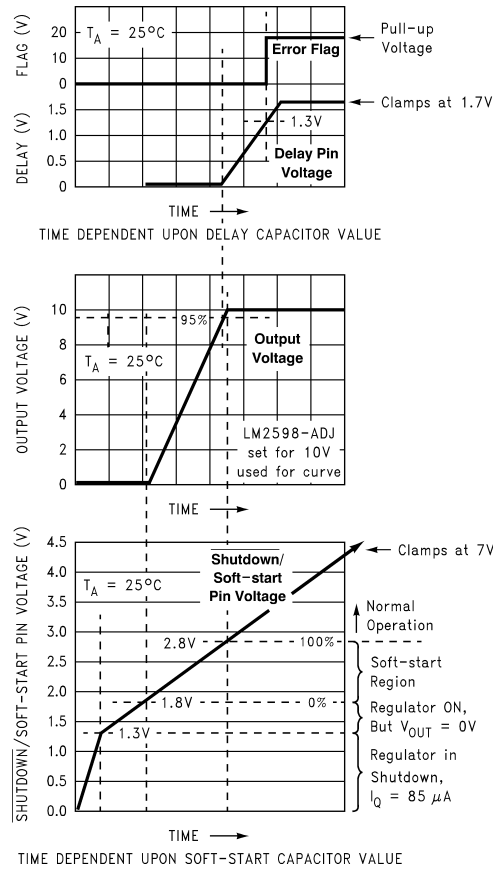
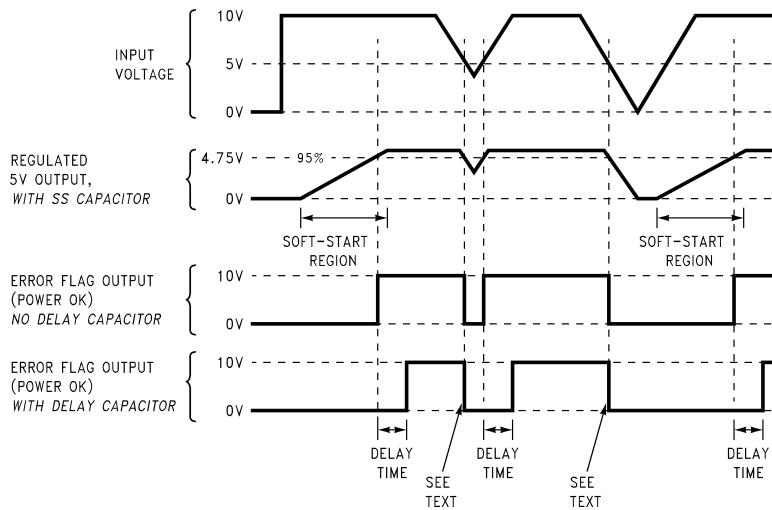

Figure 14. Soft-start, Delay, Error, Output
Figure 15. Timing Diagram for 5V Output
C_{SS} —A capacitor on this pin provides the regulator with a Soft-start feature (slow start-up). When the DC input voltage is first applied to the regulator, or when the $\overline{\text{Shutdown}}$ /Soft-start pin is allowed to go high, a constant current (approximately 5 μA) begins charging this capacitor). As the capacitor voltage rises, the regulator goes through four operating regions (See the bottom curve in Figure 14).
3. Soft-start Region. When the $\overline{\text{SD}}$ /SS pin voltage is between 1.8V and 2.8V (@ 25°C), the regulator is in a Soft-start condition. The switch (Pin 1) duty cycle initially starts out very low, with narrow pulses and gradually get wider as the capacitor $\overline{\text{SD}}$ /SS pin ramps up towards 2.8V. As the duty cycle increases, the output voltage also increases at a controlled ramp up. See the center curve in Figure 14. The input supply current requirement also starts out at a low level for the narrow pulses and ramp up in a controlled manner. This is a very useful feature in some switcher topologies that require large startup currents (such as the inverting configuration) which can load down the input power supply.
The lower curve shown in Figure 14 shows the Soft-start region from 0% to 100%. This is not the duty cycle percentage, but the output voltage percentage. Also, the Soft-start voltage range has a negative temperature coefficient associated with it. See the Soft-start curve in the electrical characteristics section.
C_{DELAY} —Provides delay for the error flag output. See the upper curve in Figure 14, and also refer to timing diagrams in Figure 15. A capacitor on this pin provides a time delay between the time the regulated output voltage (when it is increasing in value) reaches 95% of the nominal output voltage, and the time the error flag output goes high. A 3 μ A constant current from the delay pin charges the delay capacitor resulting in a voltage ramp. When this voltage reaches a threshold of approximately 1.3V, the open collector error flag output (or power OK) goes high. This signal can be used to indicate that the regulated output has reached the correct voltage and has stabilized.